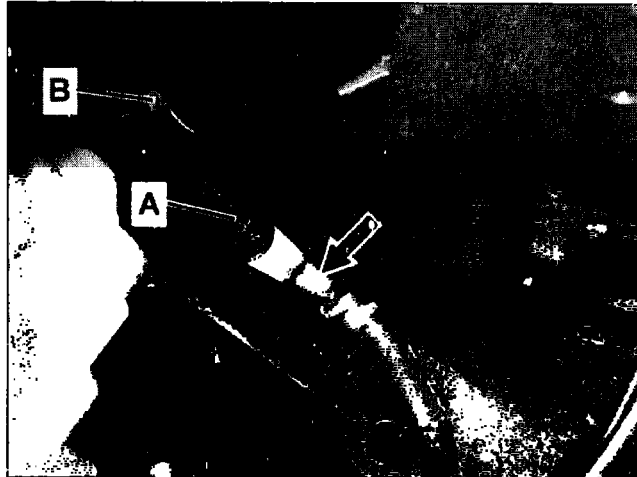

Figure 3
3. Disconnect SBC hydraulic unit harness connector (arrow, Figure 2a) from SBC hydraulic unit (A) and remove cable tie (B, Figure 3).
4. Detach the SBC hydraulic unit ground wire harness (arrow, Figure 3) at ground terminal stud (A).